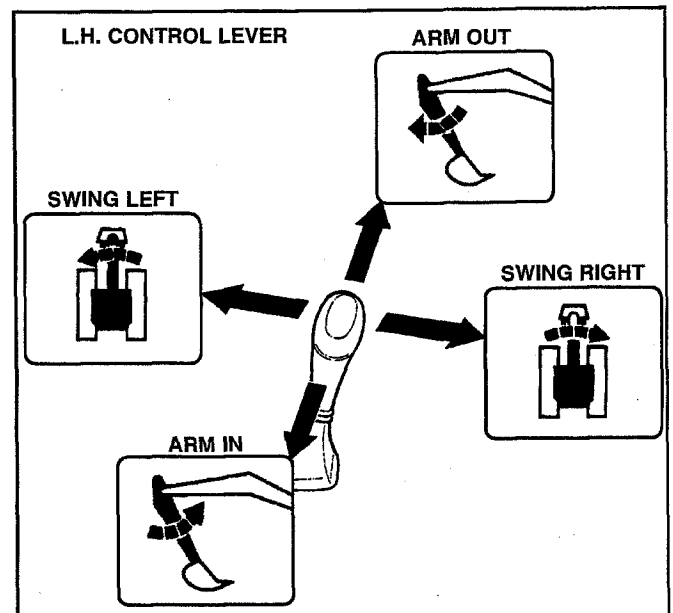

FIGURE 3.18A
4. Move Throttle Control to Mid position and operate the Boom, Arm and Swing controls for 5 to 10 minutes each. See Figure 3.18A.